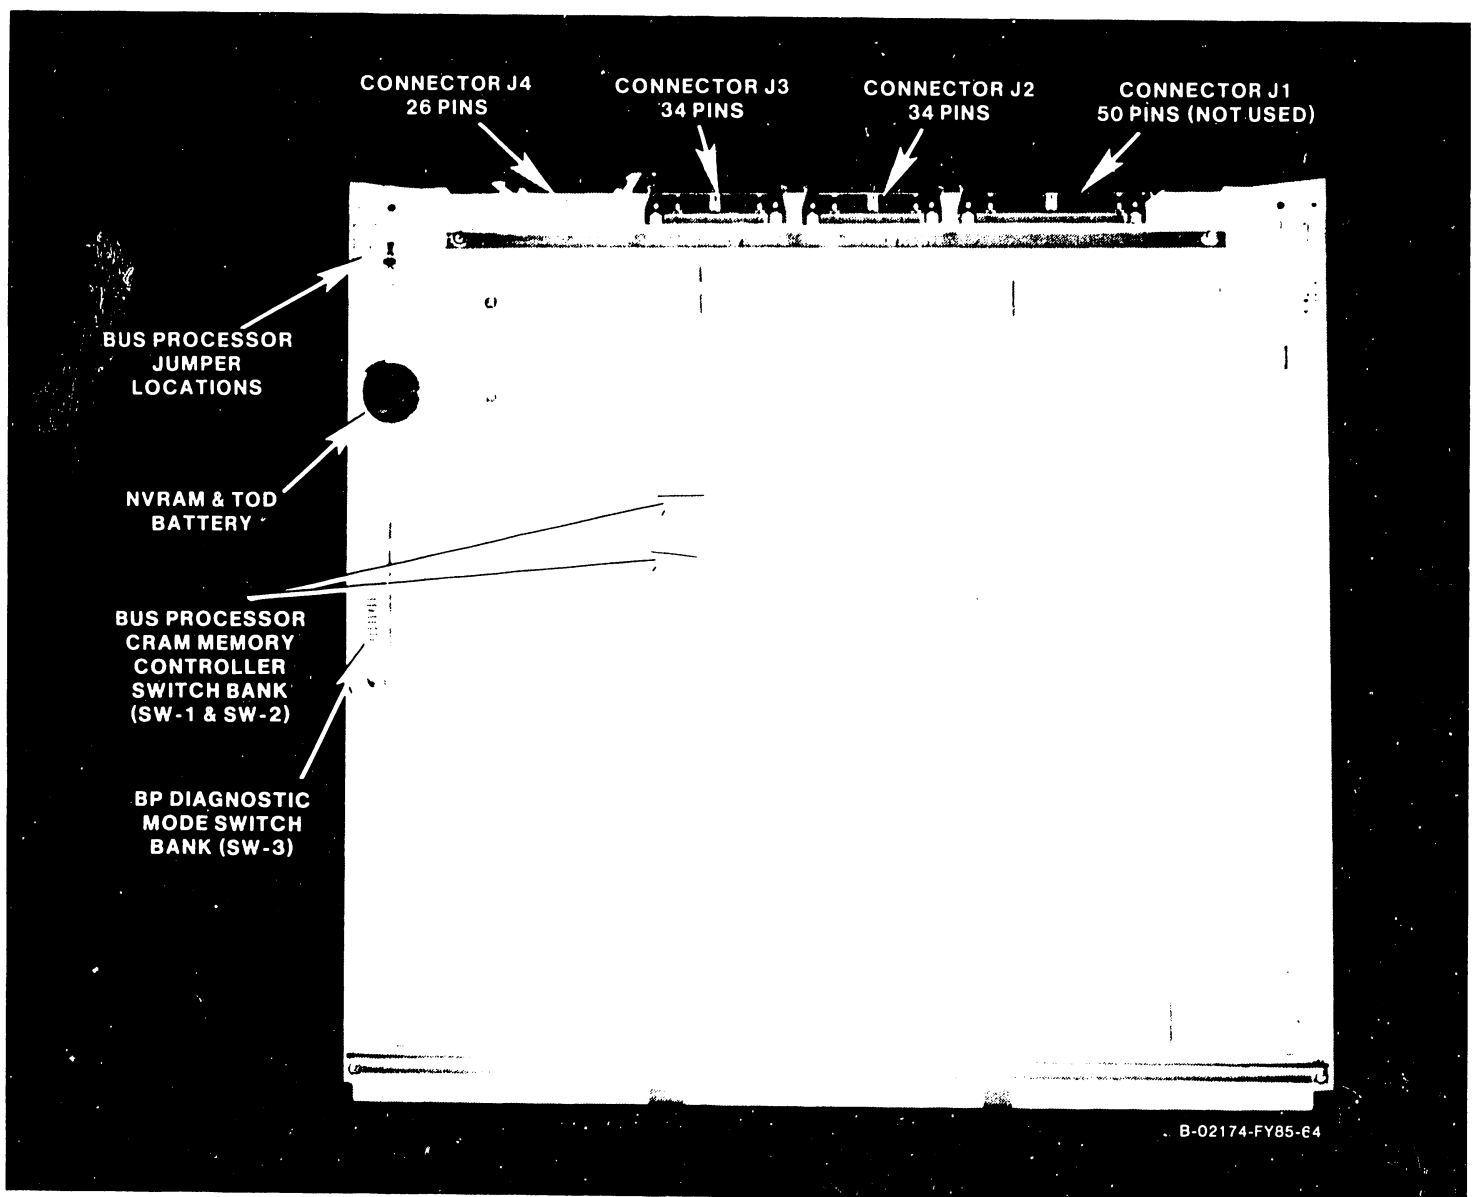

Figure 5-11. Bus Processor Printed Circuit Board
1. Before removing the 210-8465 Bus Processor PCB (figure 5-11) from Motherboard slot 3, disconnect the 34-pin connector from J2, the 34-pin connector from J3, and the 26-pin connector from J4 of the board. (The 50-pin connector J1, is to accommodate the eight inch diskette drive and is not used on VS-65.)